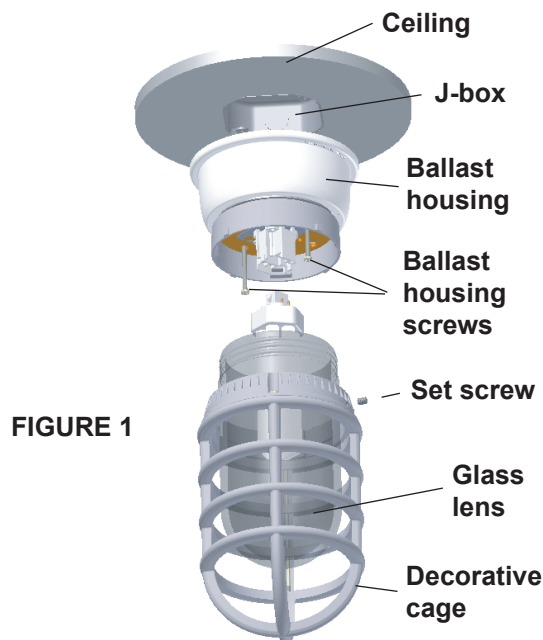

FIGURE 1
☐ set aside. Unthread glass lens; set aside. See Figure 1.
5. Secure ballast housing to J-box using included screws. See Figure 1.